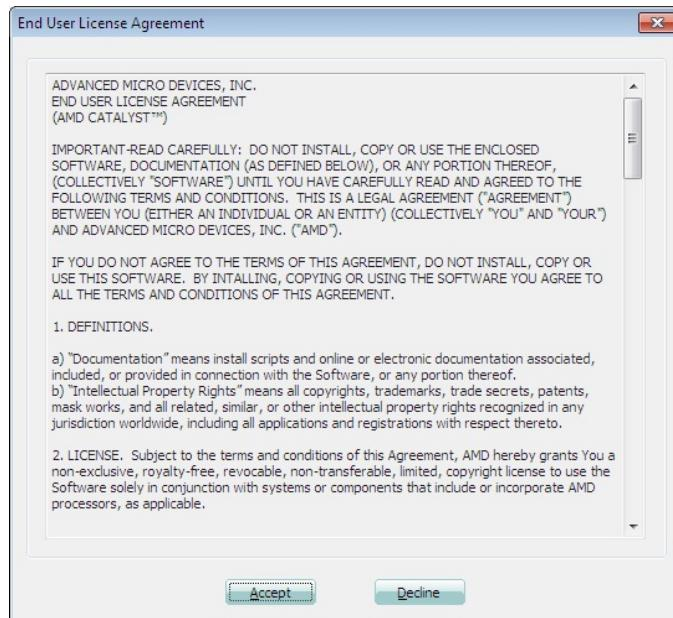

Figure 6-3: Select Express or Custom Install Screen
**Step 6:** The screen in **Figure 6-3** appears.